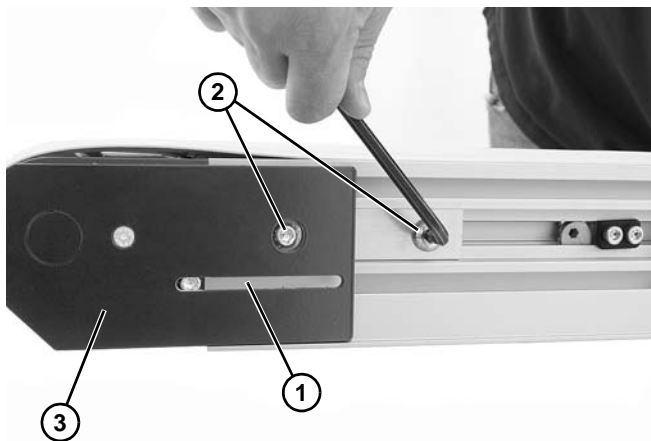

Figure 41
2. On tension end of the conveyor, identified by the pinion access slot (**Figure 41, item 1**), loosen the two tail clamp bolts (**Figure 41, item 2**) on both sides of the conveyor and push head plate assembly (**Figure 41, item 3**) inward.